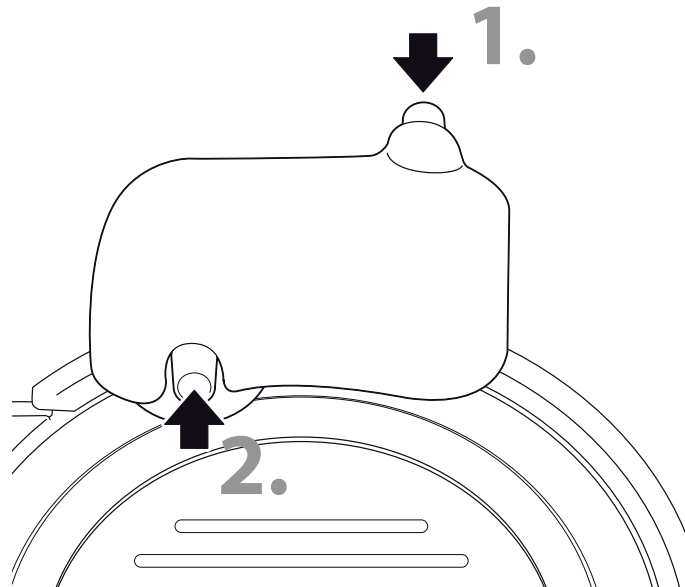

Fig. 14
4. Pull out the grinder, turn it by 180° and re-insert, as shown in Fig. 14.